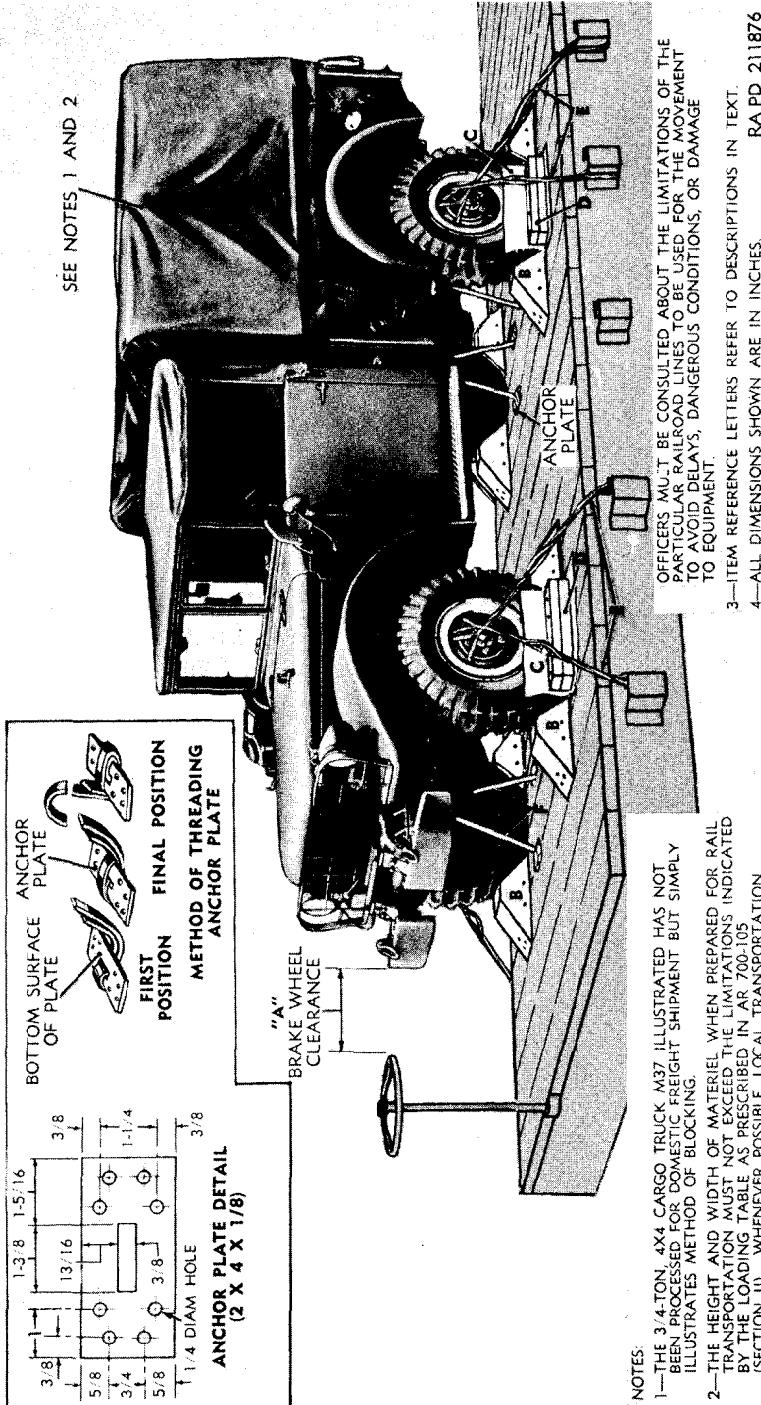

Figure 230. Method of blocking the 3/4-ton 4x4 cargo truck M37 on railcar.
a. *General.* All blocking instructions specified herein are minimum and are in accordance with Association of American Railroads Pamphlet No. MD-7, "Rules Governing the Loading of Department of Defense Materiel on Open Top Cars." Additional blocking may be added, as required, at the discretion of the officer in charge. Double-headed nails may be used, if available, except in the lower piece of two piece cleats. All item reference letters given in *b* through *g* below refer to the details and locations shown in figure 230.
b. Brake Wheel Clearance "A" (fig. 230). Load vehicles on flatcars with a minimum clearance of at least 4 inches below and 6 inches above, behind, and to each side of the brake wheel. Brake wheel clearance should be increased as much as is consistent with proper location of load.
d. Cushioning Material "C" (fig. 230). Locate suitable cushioning material, such as waterproof paper or burlap, between tires and cleats "D". The cushioning material should protrude beyond cleats "D" at floor and above cleats "D" at the side of the tire.
g. Axle Strapping "F" ($1\frac{1}{4} \times 0.035$ Hot-Rolled Steel Strap, Length to Suit). Pass two pieces of strapping "F" over each axle, one at each end, close to brake drum and through steel anchor plates, as shown in figure 230. Secure by nailing anchor plates to car floor with not less than six twentypenny nails (double-headed nails preferred). As an alternate method, pass two cables (consisting of four strands of No. 8 gage, black annealed wire) over each axle and each end around $2 \times 4 \times 18$ -inch wooden cleat, locate cleats lengthwise of car, and nail to car floor with thirtypenny nails.